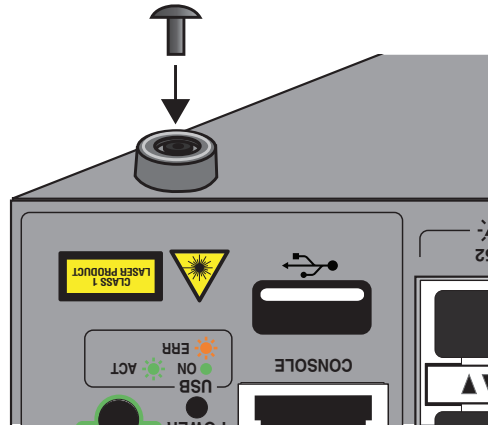

Figure 14. Inserting the Rivet into the Bumper Foot
4. Insert the rivet to secure the bumper foot to the base. Refer to Figure 14.